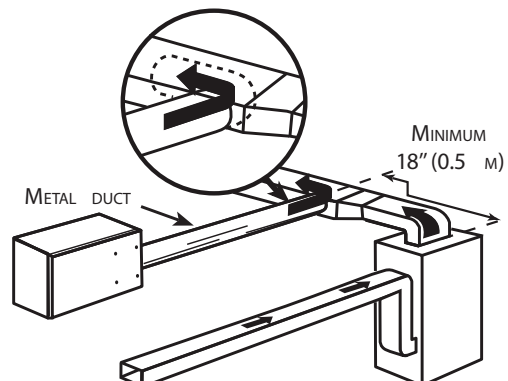

Fig. 10 - Supply Side Connection
- Connect this opening to the fresh air distribution port of the HRV/ERV (use metal duct). See Fig. 10.